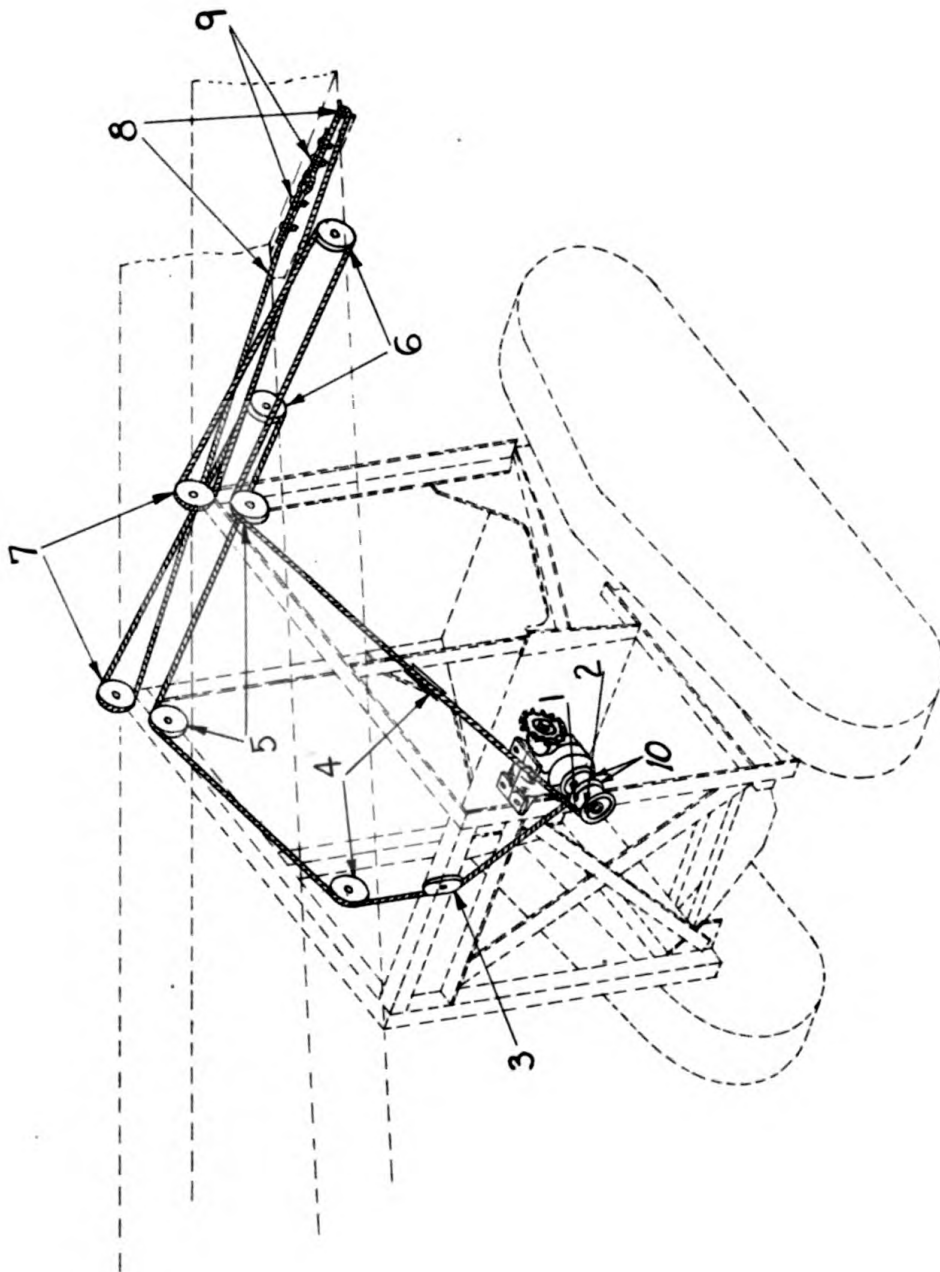

Figure 88. Installing cables.
Drive the machine under a storing structure. Lower the conveyor, resting the feed end on solid blocking 8" high. Lash the elevating conveyor frame to an overhead structure permitting a minimum amount of slack in the lashing operation. Use a cable or chain when lashing the conveyor. Rope may stretch thus changing position and necessitating raising the conveyor when another change is made. In lashing conveyor run cable through conveyor frame at discharge end just over take-up bolts (1). Remove pins holding push arms in U shape chassis brackets (2). Block up under push arms (5) so it does not fall to ground when tractor unit is driven away. Remove cable clamps (9) Figure 88, where ends of cables join. Unreave cables but do not remove cable from the hoist drum (10). Remove conveyor drive chain. Remove flood lights from the boom and disconnect wiring to elevator frame at connection which is in the conduit that is mounted on the center upright angle of the superstructure, operator's side. Tractor unit can now be driven away from conveyor. Remove bolted extensions of both pivot shaft tracks and sheave (5) with bracket, oppo-